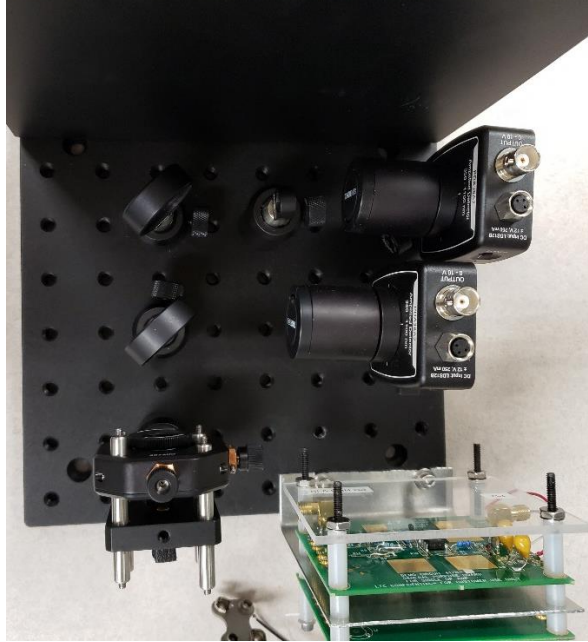

Figure 3: Laser Diode Mount and 2nd Beam Sampler On
- a. The result is shown in Figure 3 below: